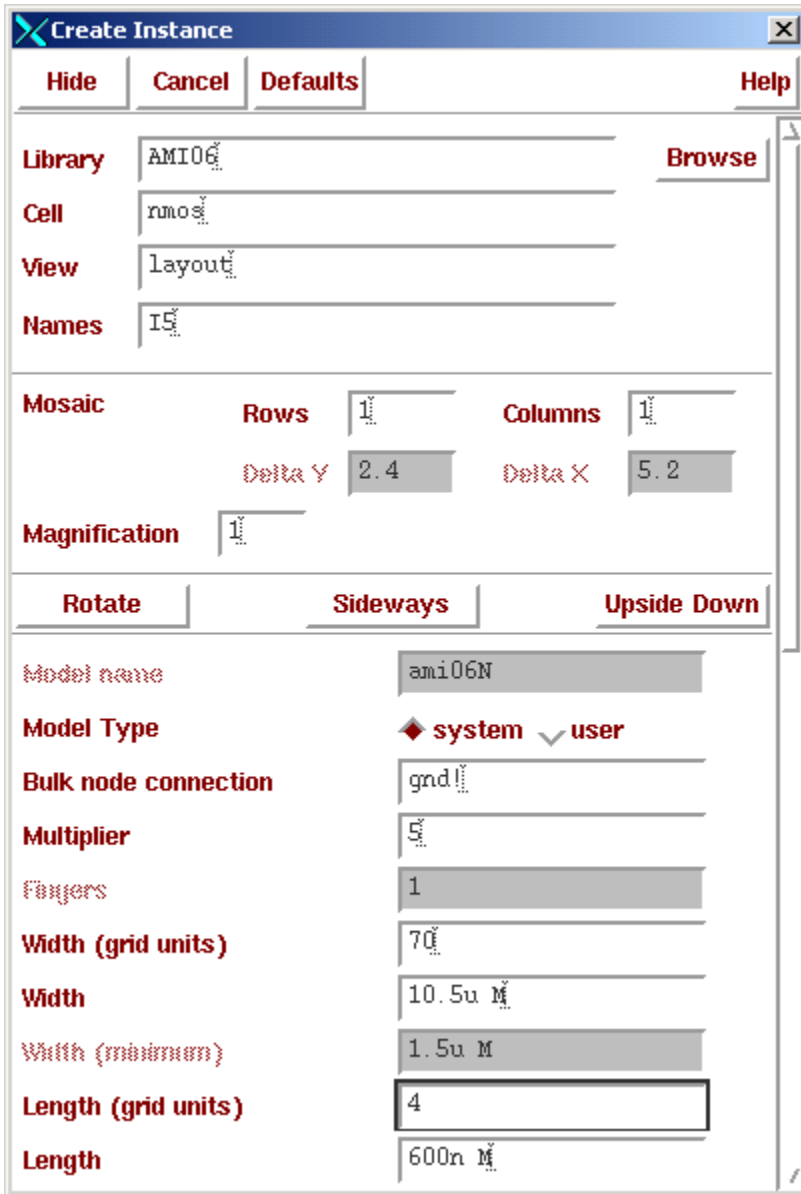

Figure 75: NMOS Transistor with a Multiple of 5.
3. For the NMOS transistor, in the Create Instance pop-up, fill it out like Figure 75.